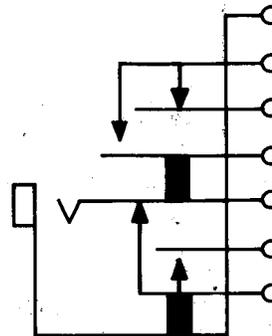

Fig. 6—438C Jack
2.05 438C: This single mounted jack (Fig. 6) is heavily insulated and is arranged to be used with the 153; 209, 241A, 241B, 241C, and 347-type plugs. This jack replaces the 281A jack.